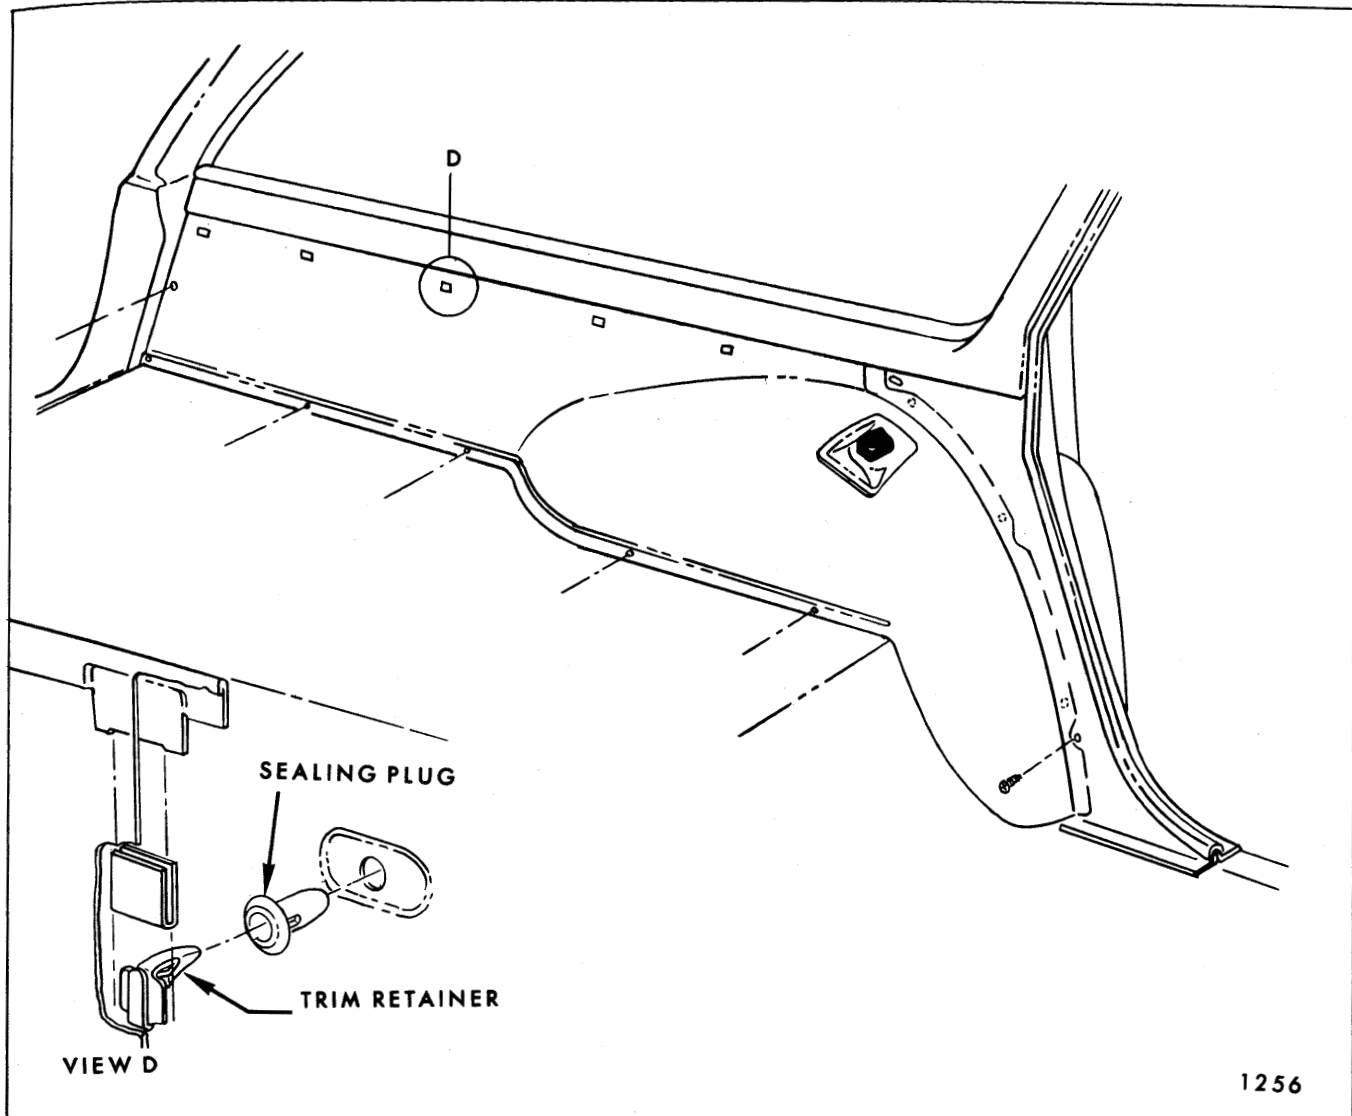

Fig. 8-20—Rear Quarter Trim Panel, Left Side - Pontiac 23335 Style
2. Remove all screws at front, rear and bottom of rear trim panel (see Fig. 8-20).
3. Working from front to rear (with a flat bladed tool), disengage trim retaining clips from plastic sealing plugs and remove trim assembly from body (see View "D" in Fig. 8-20).